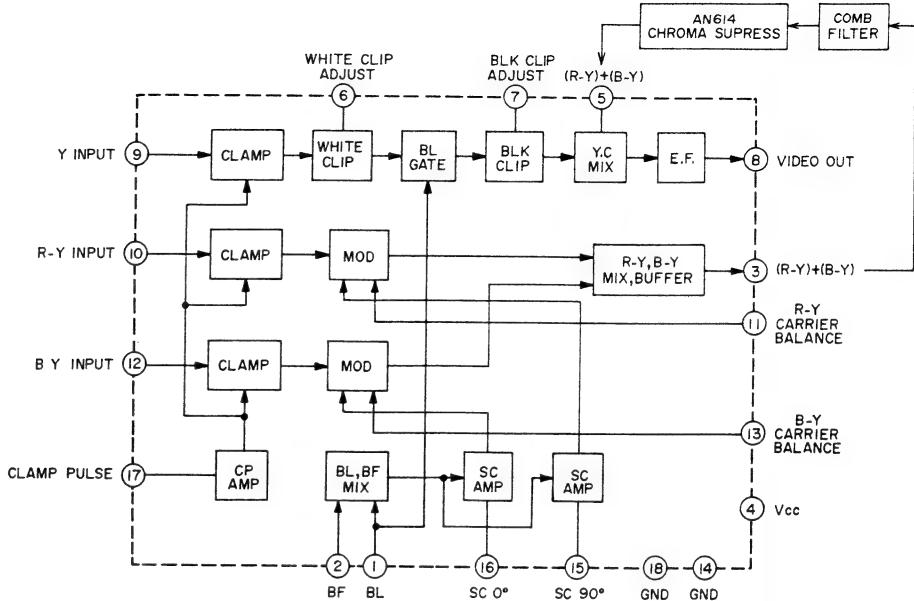

Fig. 28
As shown in Fig. 28, IC5 incorporates a circuit whose purpose is to take out the (R-Y) + (B-Y) output from pin ③ and return it to pin ⑤ via the CHROMA SUPPRESS circuit. This permits chroma signals to be removed if the amount of light is less or more than specified, resulting in the B/W signal being produced.